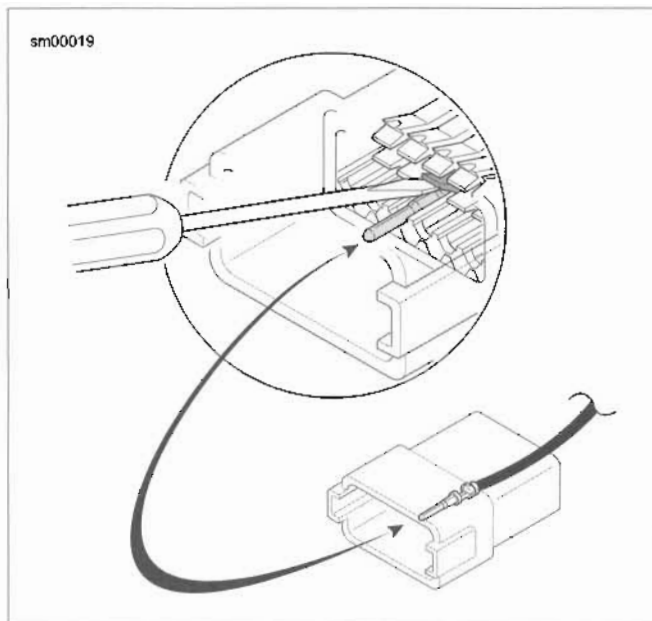

Figure A-34. Deutsch DT Sealed Connector: Press Terminal Latch and Back Out Pin
2. See Figure A-34. Use a pick or small screwdriver to press terminal latches inside socket housing and back out sockets through holes in rear wire seal.